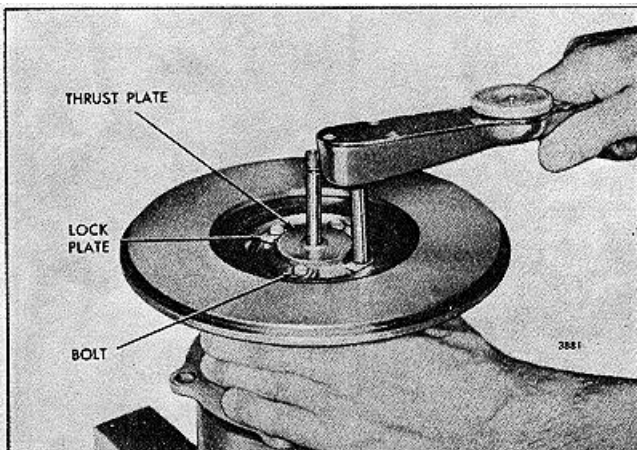

FIG. 31 - Tightening Thrust Plate Retaining Bolts
14. Place a new lockplate on each thrust plate bolt and thread the bolts into the center housing. Tighten the 10-24 bolts to 30-40 **lb-in** (3-5 Nm) torque (T18 turbocharger) or to 90-110 **lb-in** (10-12 Nm) torque on the 5/16"-18 bolts on the T18A turbocharger (Fig. 31). Then bend one corner of each lockplate up against the flat side of each bolt head.